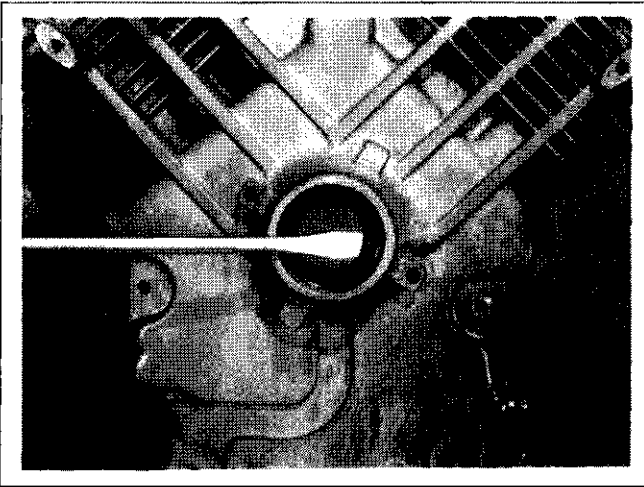

Figure 9-68. Removing Oil Seal.
1. Remove oil seal from crankcase. See Figure 9-68.